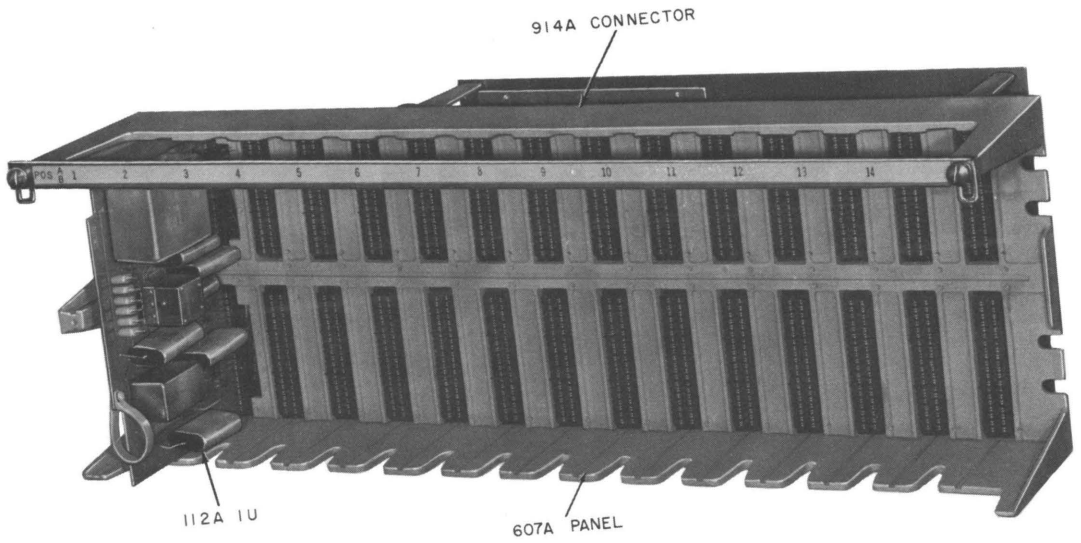

Fig. 2—607A Panel With 112A Interconnecting Unit
- 607A Panel (includes fuse panel, Fig. 2 and 3)